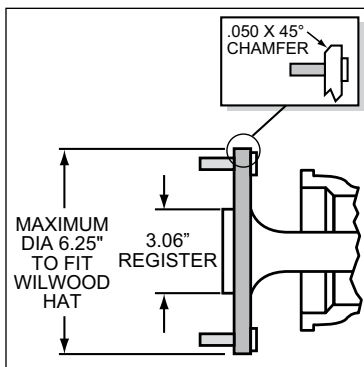

Figure 3. Axle Flange Maximum Dimension
- Maximum axle flange diameter must be no larger than 6.25" w/.050" x 45° chamfer (Figure 3).